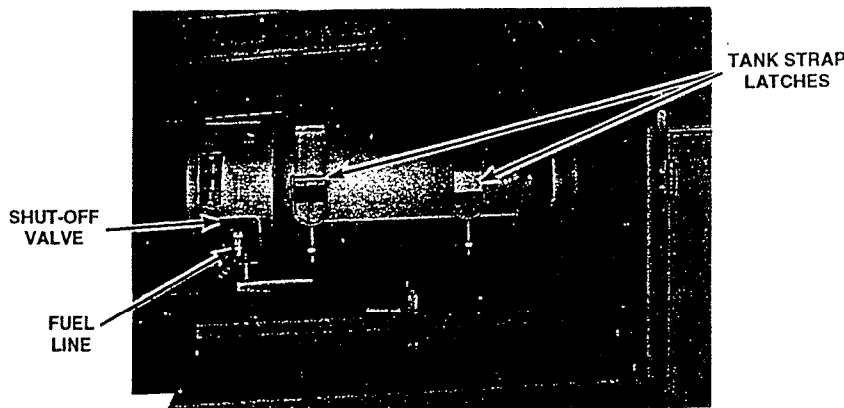

Fig. 4-3 LPG Tank
- A. Close LPG fuel shut off valve (Fig. 4-3).
- D. Release tank strap latches (Fig. 4-3) and carefully lift tank from its bracket.